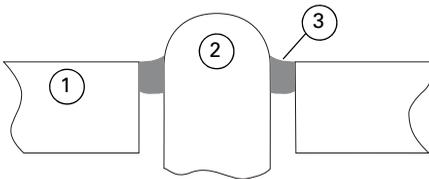

Fig. 7: Sealed LED
- 4 If an IP22 rating is required additional sealing must be applied. Apply Loctite S1595 silicone sealant around the LED, as shown in Fig. 7. Note how the sealant fills the small gap between the LED and its hole in the cover. Avoid smearing sealant over the LED surface. Using a fine nozzle is recommended.